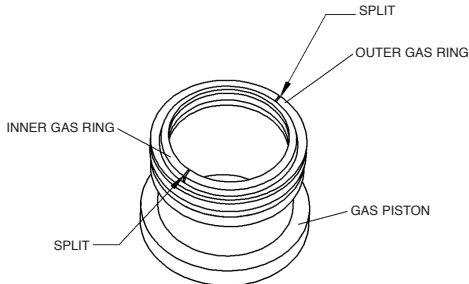

Figure 16
3. With the tapered ends of the gas rings facing upward, press one side of the gas rings down onto the gas piston, then press down around the rim to secure the gas rings to the gas piston (Figure 16).